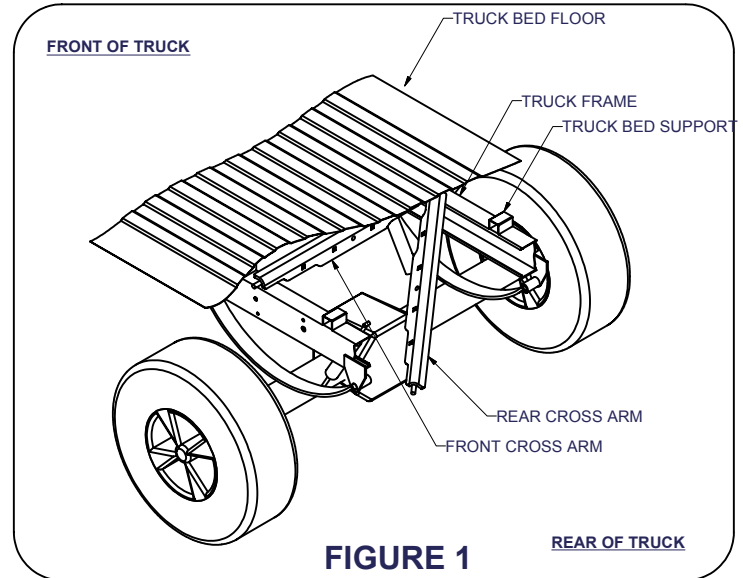

FIGURE 1
- 1) Install the cross arms by sliding end into the gap between the truck bed and frame on passenger side. Then swing other end between the truck bed and frame gap on the driver's side. **(Note: Holes in the cross arms must face each other as shown in Figure 1.)**